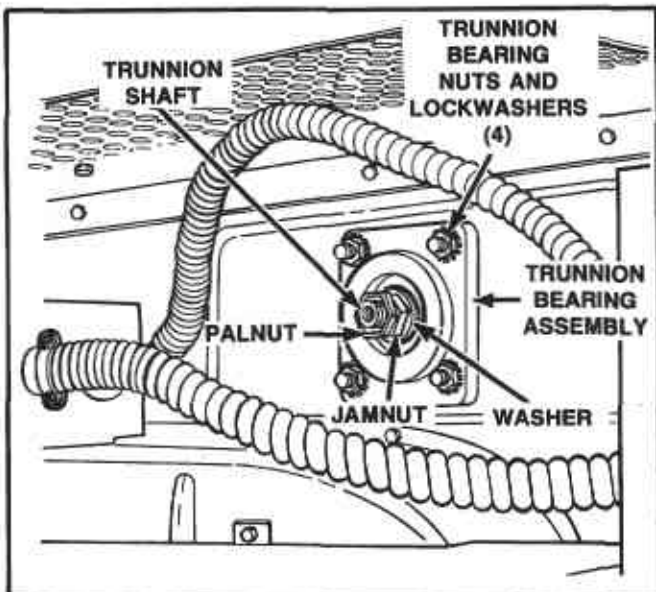

Figure 16
- j. Remove palnut, jamnut and washer from end of trunnion shaft located at rear of unit, *Figure 16*.
#### 18. TRUNNION BEARING ASSEMBLY (Figure 16)